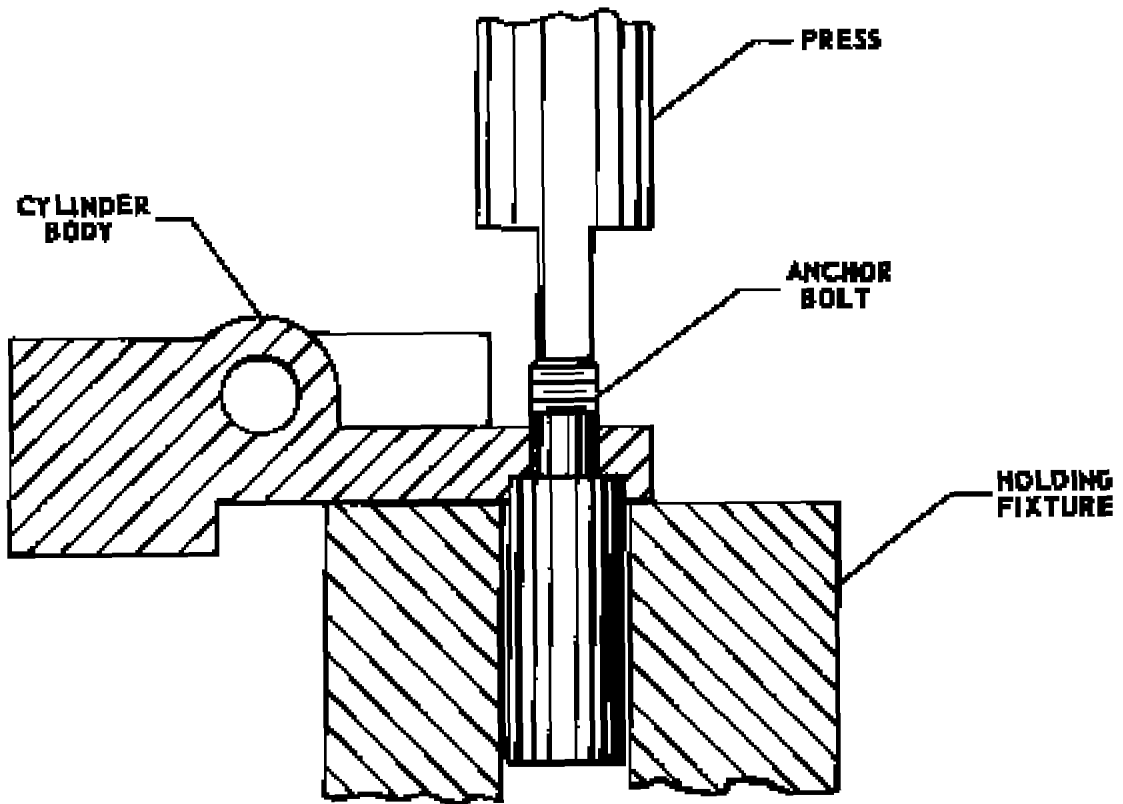

Figure 32-15. Removal of Anchor Bolt
- A. Position cylinder assembly on a holding fixture. (Refer to Figure 32-15.)